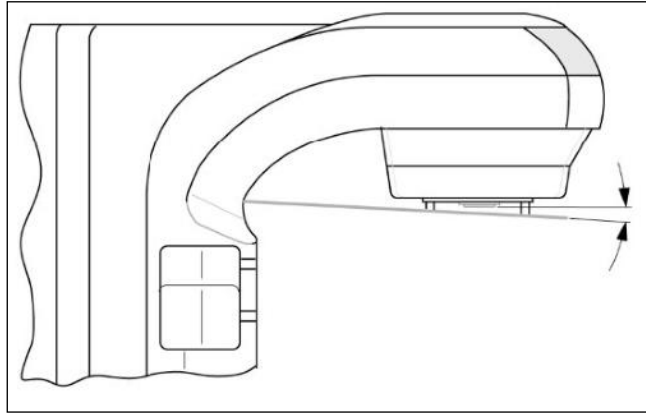

Figure 30: Tilt Alignment Test
With collimator at 90° and gantry at 0°, the protection zone tilt alignment is 3° relative to the Interface Mount (shown in Figure 30) and meets the following requirements:
2. Attach 26 mm (shortest) and 47.8 mm (longest) Gauge Plugs as shown in Figure 30 (long plug in front and short plug in back). Verify yellow LED (on the Laser Unit body) does not illuminate.